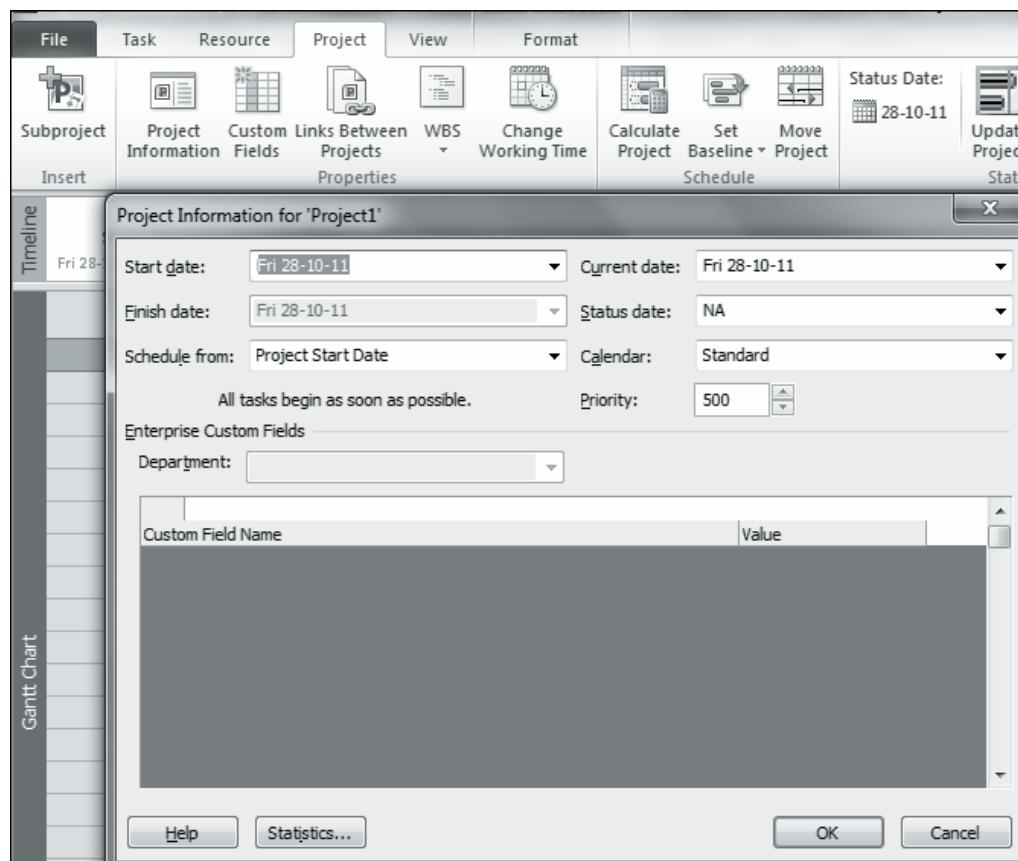

Figure 2.5: Project Information Dialog Box
Figure 2.5 illustrates **Project Information** dialog box.
4. Enter relevant information in the **Project Information** dialog box as shown in figure 2.5 and click **OK**.